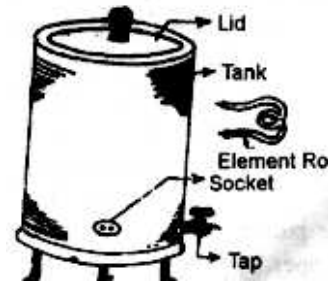

Fig. 9.4. Tank type water heater
1. Tank type Water-heater. Its construction is shown in Fig.9.4. It consists of a cylindrical tank of 20 to 50 liters capacity. The top of the tank is kept open and it can be covered with a circular lid. The tank is installed on a stand. An outlet top is fitted near bottom and a socket is provided for electrical connections. The tank is fitted with water, covered with the lid and then connected to the main supply. Approximately with in half an hour the water becomes warm for bathing etc.